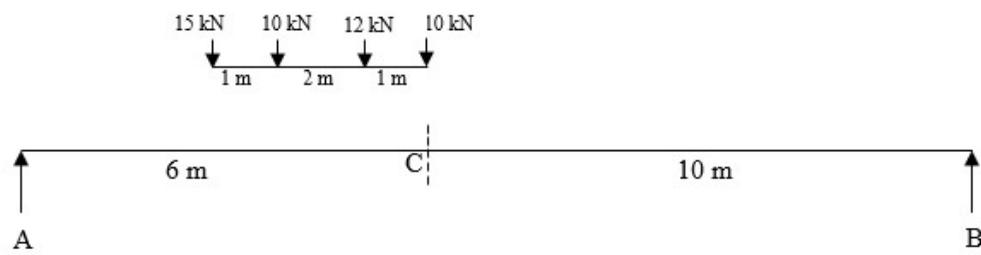

Figure 6
- (c) A train of load shown in figure 6 crosses a simply supported girder of span 16 m from left to right. Calculate maximum shear force and bending moment at section 6 m from left. 07